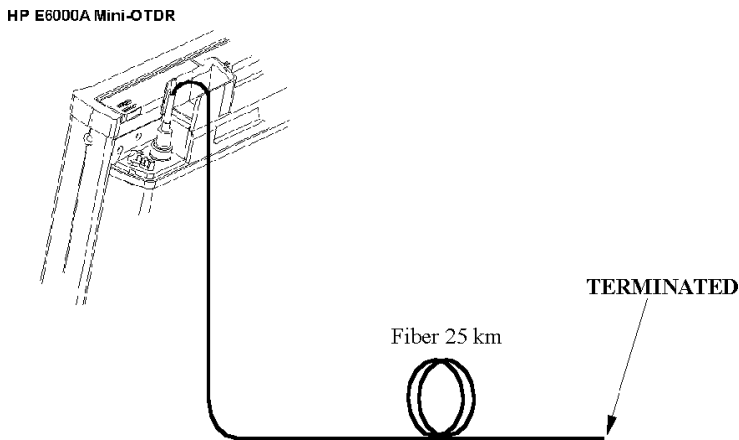
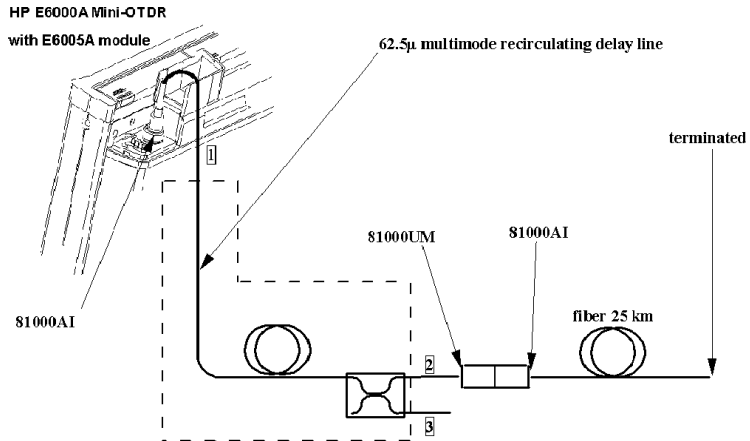

Figure D-1
Figure D-1B Dynamic Range Test Setup: Multimode
- 1 Connect the equipment as shown in Figure D-1 (single-mode module), or Figure D-1B (multimode model). Terminate the far end.
If you use such a multimode fiber, you do not require the coupler (within the dotted box in Figure D-1B).